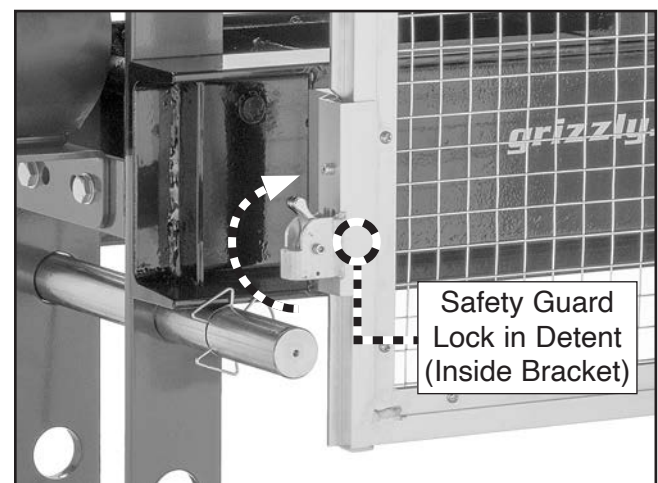

Figure 23. Safety guard lock engaged.
3. Rotate (2) safety guard locks inboard into detents on safety guard frame to engage locks (see **Figure 23**).